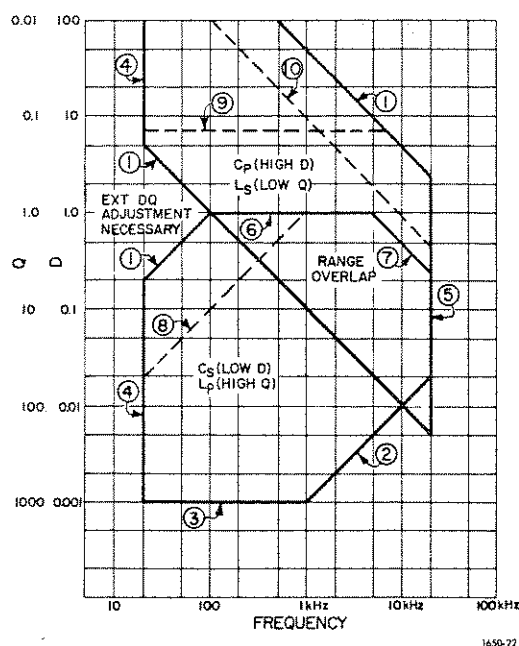

Figure 4-3. DQ ranges vs frequency.
The D and Q readings and ranges are functions of frequency. Also, in order to avoid errors in the C and L readings, the D or Q of the unknown is further limited. The resulting allowable D and Q ranges are given in terms of frequency and D or Q of the unknown at the measurement frequency in Figure 4.3.
The wide overlap of ranges (Figure 4-3) permits D and Q coverage down to 100 Hz without external adjustment. Below 1 kHz, more of the low D and high Q range can be used than is calibrated. In this region the low Q scale can be used to indicate D directly and the high D scale used to indicate Q directly with a maximum additional error of 2%.
Below 100 Hz there is a D and Q range not covered by the internal DQ adjustment. An external rheostat or decade box may be used to extend the range of any of the D or Q scales. However, to avoid error, the low D and high Q ranges should not be extended beyond a value of 1 at frequency of measurement (Figure 4-3).
1. Use the  $C_p$  and  $L_s$  bridges. These have better DQ coverage and fewer sources of error (see Figure 4.3).
\*Below line 10 (extended) in Figure 4-3.